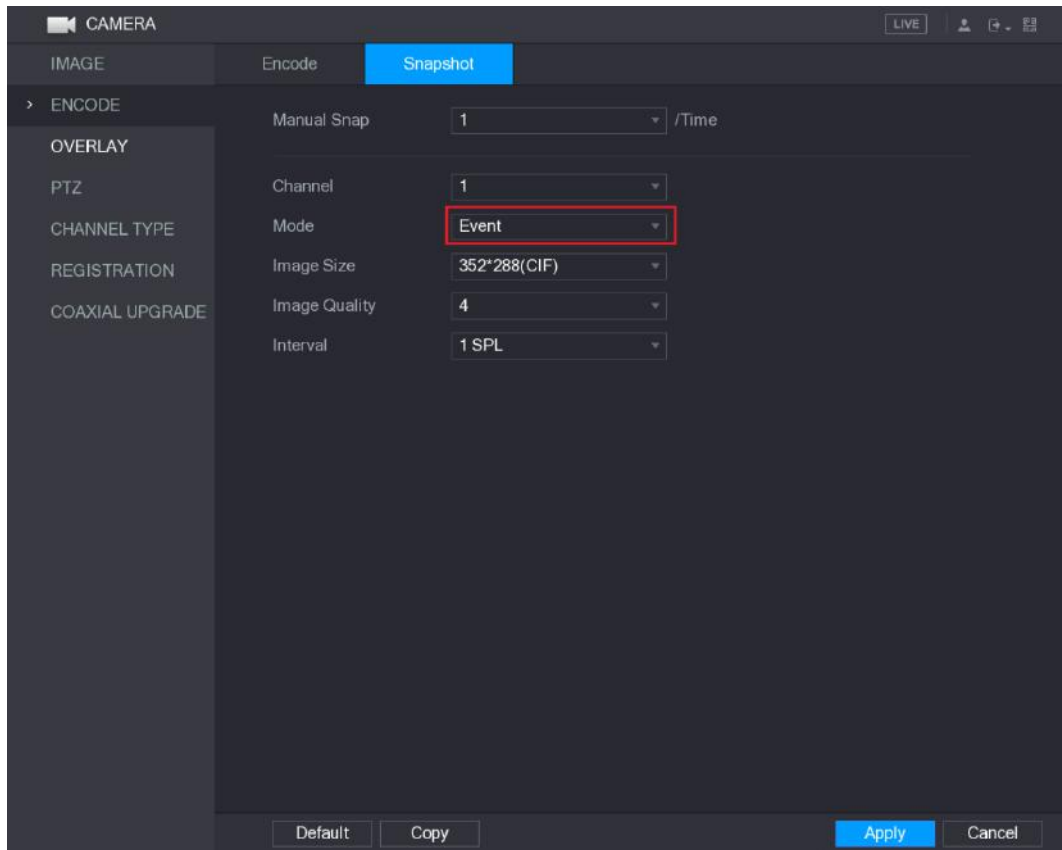

Figure 5-91
Step 2 In the **Mode** list, select **Event**, and then configure other parameters. See Figure 5-91.